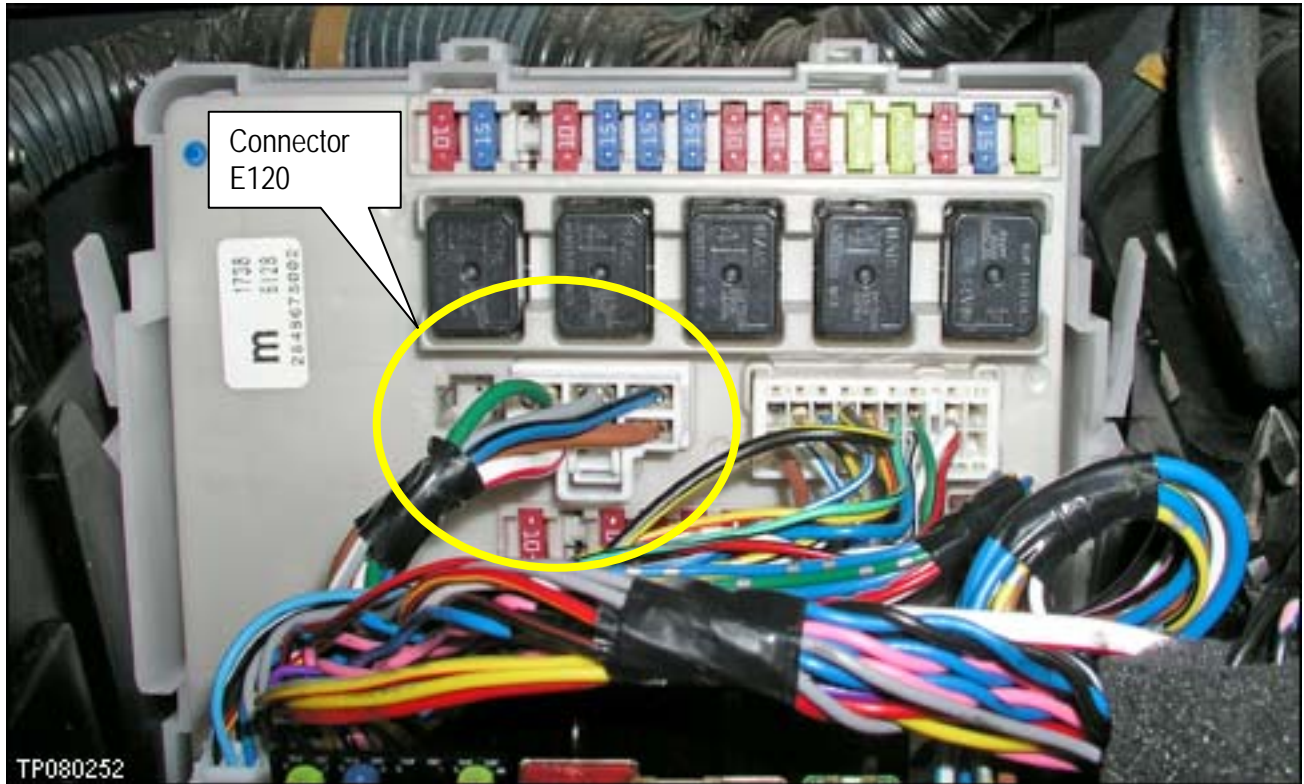

Figure E-3
3. Disconnect the white connector circled in Figure E-3.